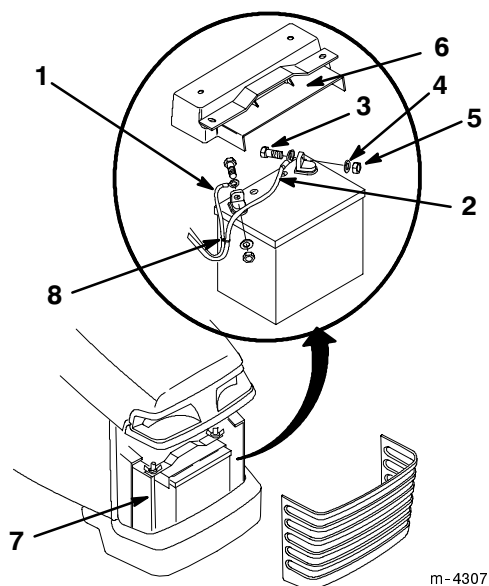

Figure 51
3. Remove the battery shield (Fig. 51).
4. Disconnect the negative (black) ground cable from the battery post (Fig. 51).
5. Disconnect the positive (red) cable from the battery post (Fig. 51).
1. Place the battery onto the chassis (Fig. 51).
2. Using the bolt, washer and locknut, connect the positive (red) cable to the positive (+) battery post (Fig. 51).
3. Using the bolt, washer and locknut, connect the negative (black) cable to the negative (-) battery post (Fig. 51).